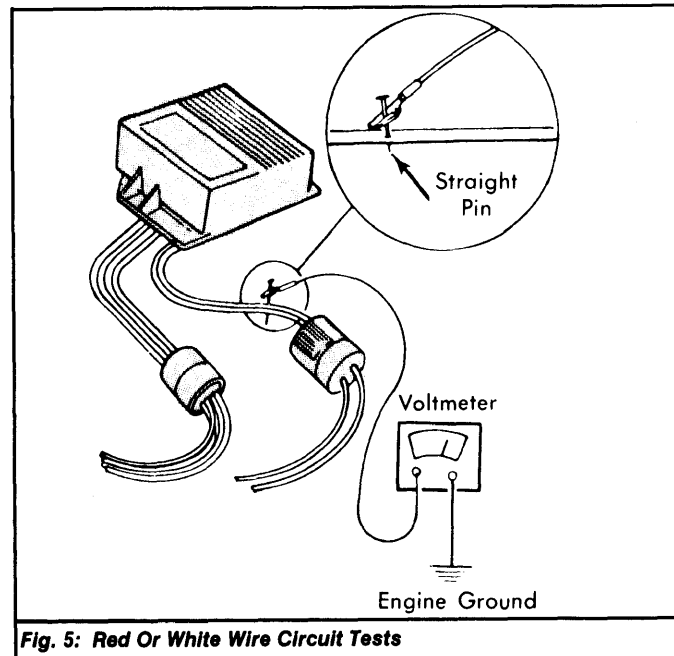

Fig. 5: Red Or White Wire Circuit Tests
Red Wire Circuit - 1) If no spark occurred in step 3) of BASIC SYSTEM TEST, measure battery voltage. Using a straight pin, puncture Red wire of control module's 2-wire harness (between module and connector). See Fig. 5.
3) If voltage is okay, crank engine and check for sparks at modified plug. If sparks occur, ignition system is okay. If none occurs, puncture White wire with a straight pin between control module and 2-wire connector. See Fig. 5.